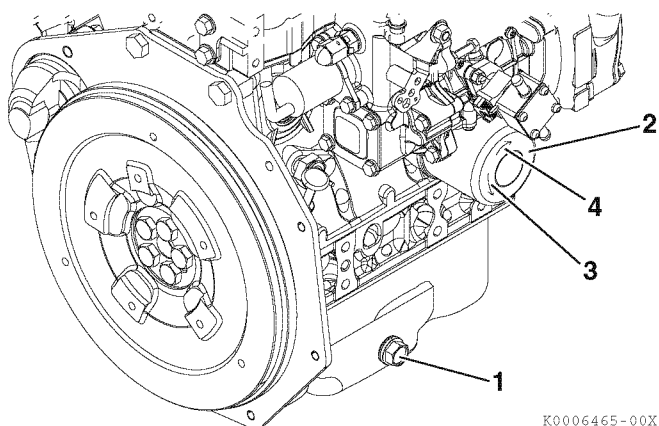

Figure 5-2
6. Remove the oil drain plug (**Figure 5-2, (1)**). Allow oil to drain.
1. Turn the engine oil filter (**Figure 5-2, (2)**) counterclockwise (**Figure 5-2, (3)**) using a filter wrench.
3. Lightly coat the gasket on the new oil filter with clean engine oil. Install the new engine oil filter manually by turning it clockwise (**Figure 5-2, (4)**) until it contacts the mounting surface. Tighten to 14 to 17 ft-lb (19.6 to 23.5 N·m, 2.0 to 2.4 kgf·m) or one additional turn using the filter wrench.